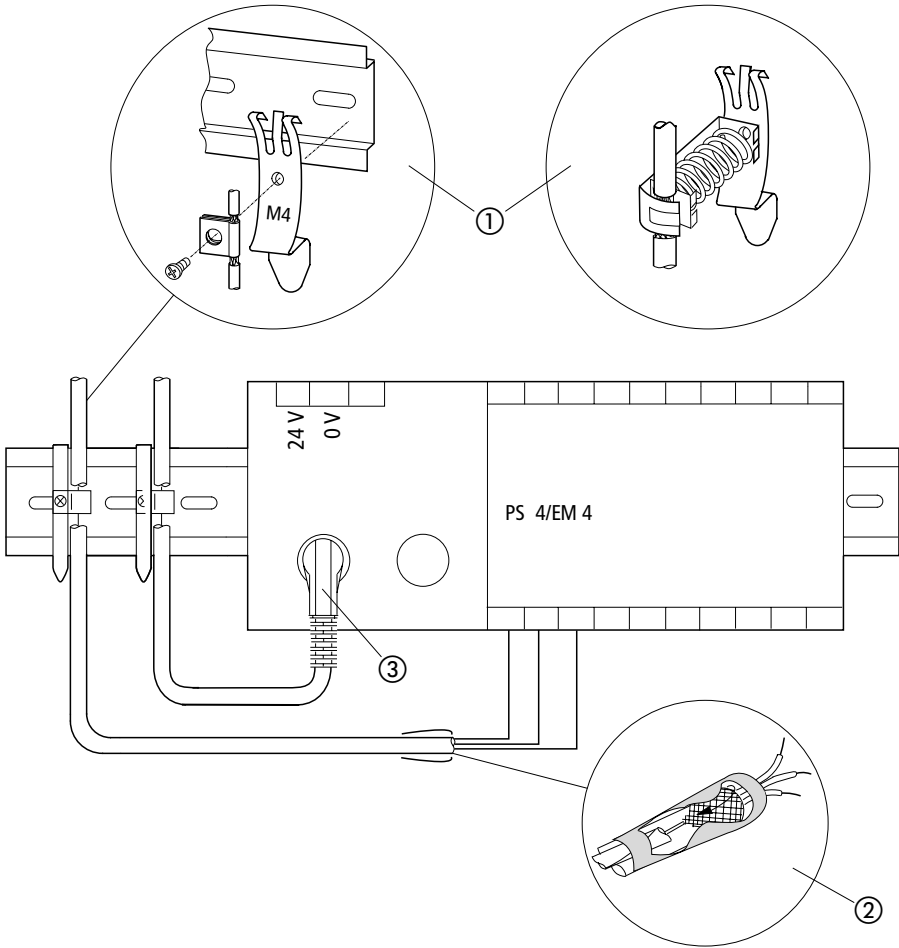

Figure 4: Screen connection to reference potential surface
- ▶ Route screened data and signal cables on the left and the right of the device along the shortest possible distance and connect the screen braid to the ground terminal using a low-impedance connection and large contact areas (See Fig. 4, item ①).
- ▶ Connect the screen braid with the metal sleeve of the plug connector (DIN plugs) ③.
- ▶ Insulate the end of the screen braid as close as possible to the signal cable entry ②.
- ▶ Connect the screen of the Suconet K data cable both to the potential reference surface and to the housing of the plug connector (see Fig. 4 “Screen connection to reference potential surface”).